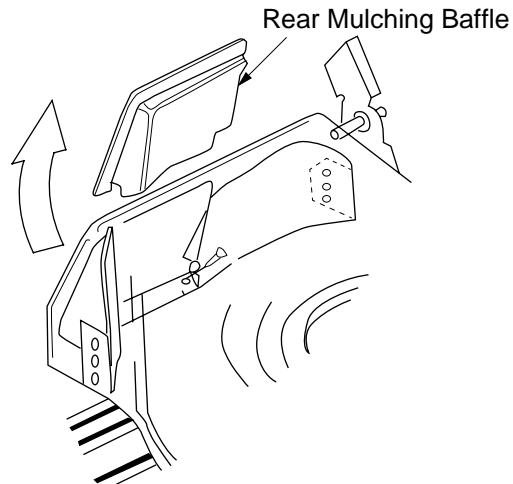

FIGURE 9
- Lift the rear discharge door and remove the rear mulching baffle from the mower. See Figure 9.